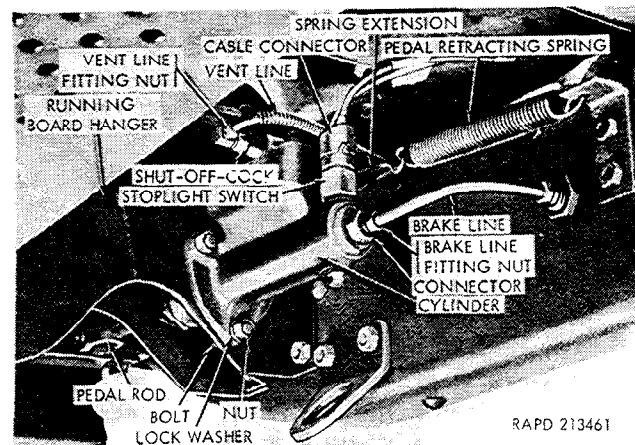

Figure 2-156. Brake master cylinder, installed.
(1) Disconnect the cable connector (fig. 2-156) from the stop light.
(1) Install the inverted flared tube connector (fig. 2-156) in the rear of the master cylinder. Tighten the connector.
(2) Install the vent line shutoff cock with attached elbow in the master cylinder cover. Tighten the shutoff cock.
(3) Install the stoplight switch.
(4) Position the master cylinder on the left running board front hanger and install three bolts, lockwashers, and nuts. Tighten the nuts evenly.
(2) Removal procedure of tees, unions, and connectors will be apparent upon examination.
c. Install Brake Line from Master Cylinder to Frame Tee. Use seamless tubing and two fitting nuts. Install the nuts on the tubing and double flare the tubing at both ends, using a flaring tool. Shape the tube as required and screw the fitting nuts to the connector in the master cylinder (fig. 2-156).
(1) Disconnect the vent line from the elbow at the shutoff cock (fig. 2-156) and from the flexible line below the generator and remove the vent line. Remove the conduit cover from the line.
(2) Use a suitable length of seamless tubing, flexible conduit, and two 3/16-inch inverted flared tube fitting nuts. Assemble the tubing, cover, and fitting nuts (f(1) above). Install the line, shaping it as required, and connect it to the flexible line below the generator and the elbow at the shutoff cock (fig. 2-156).